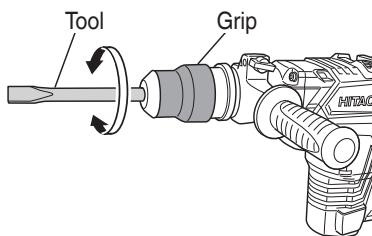

Fig. 9
- (b) Turn the Grip or the Tool as illustrated in Fig. 9 and fix the tool to the desired working direction.